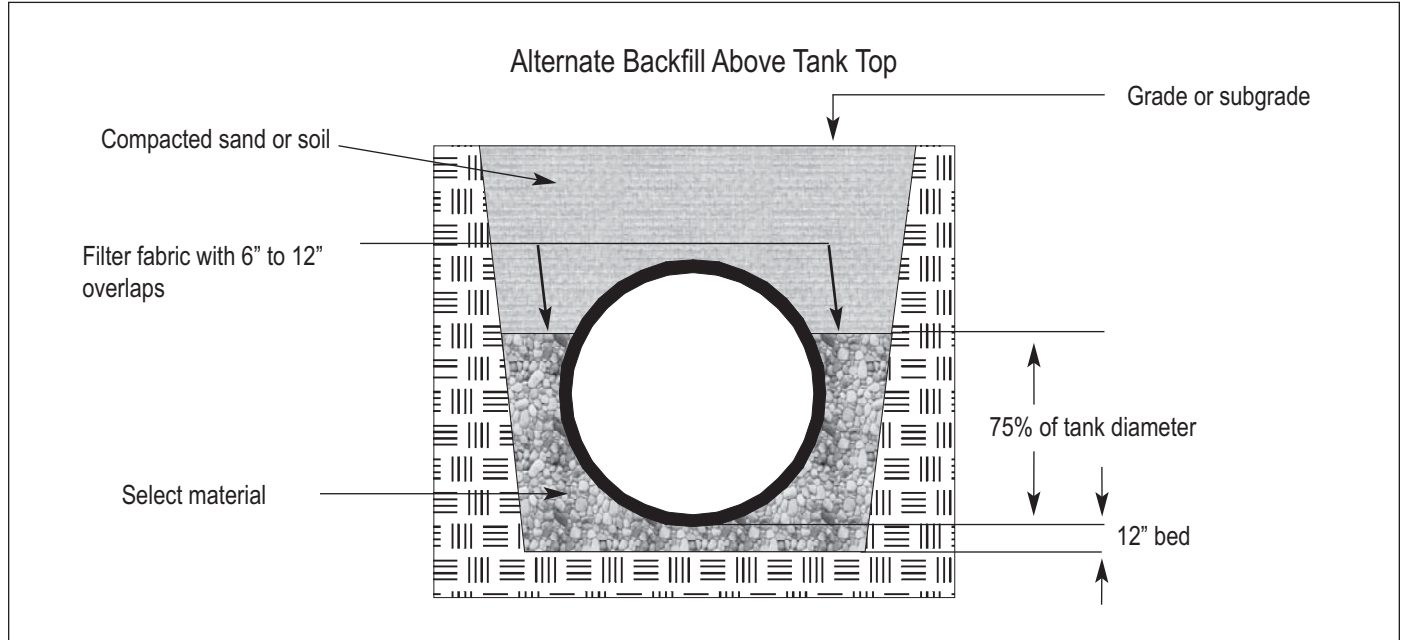

FIGURE 1-1
2.1. Use the specified select material as the backfill vertically up to a point of 75% of the tank diameter. (See FIGURE 1-1.)